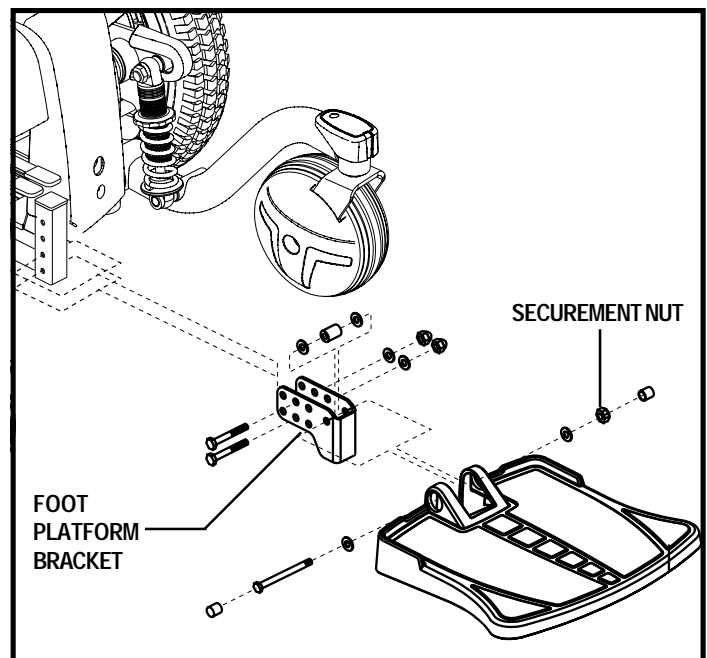

Figure 17. Foot Platform Adjustment
1. Remove the hardware from the foot platform bracket. See figure 17.